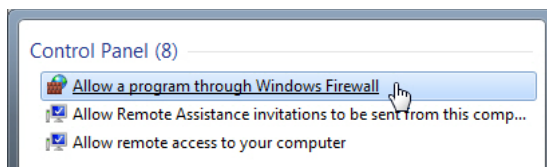

Figure 20 Control Panel
- b In the Control Panel, select **Allow a program through Windows Firewall** as shown in **Figure 20** on page -52.